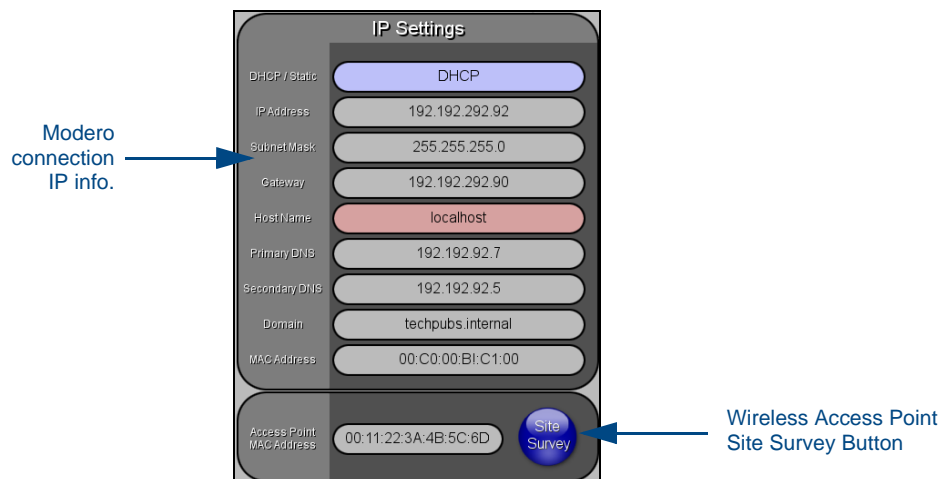

FIG. 26 Wireless Settings page (IP Settings section)
1. Select **Wireless Settings**. Wireless communication is set within the IP Settings section of this page (FIG. 26).
1. Press the **Wireless Settings** button (located on the lower-left) to open the Wireless Settings page. Wireless communication is set within the IP Settings section of this page (FIG. 26).